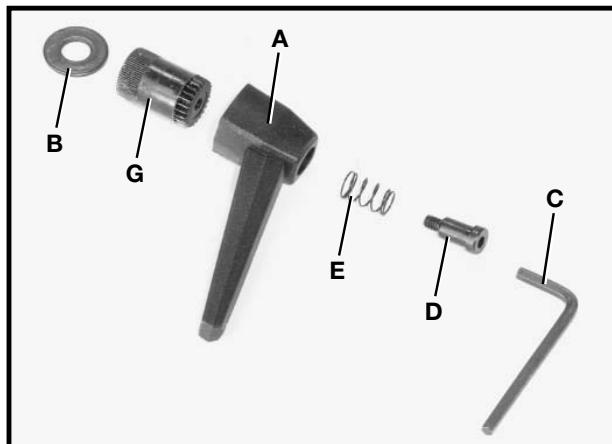
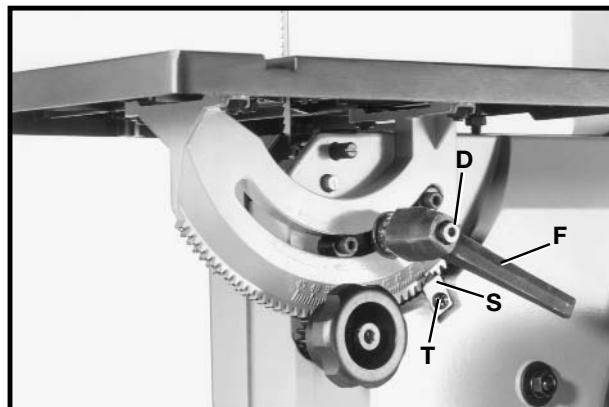

Fig. 4
Fig. 11
1. Locate table locking lever (shown disassembled) Fig. 4, M10 flat washer (B) and 4mm wrench (C).
2. Using the 4mm wrench (C) Fig. 4, supplied, remove screw (D) and spring (E) from handle (A) and remove handle from nut (G). Do not lose spring (E).
8. Fasten pointer (S) Fig. 11, to the back of band saw using the M5x.8x10mm pan head screw (T).
9. Place locking handle (F) Fig. 4, onto stud (G). Place spring (E) Fig. 4, inside hole of lock handle and fasten in place with screw (D) as shown in Fig. 11. **NOTE:** Handle (F) is spring-loaded and can be repositioned on the stud by pulling out the handle and repositioning it on the nut.